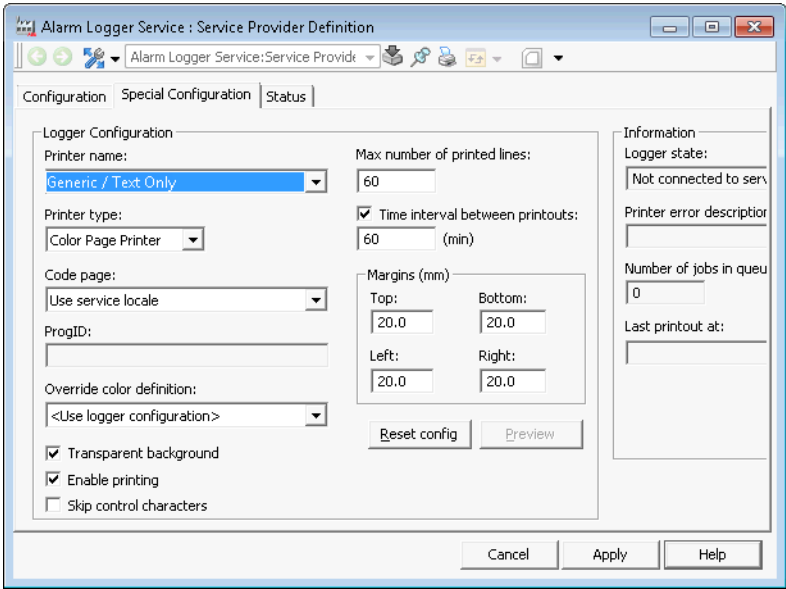

Figure 63. Service Provider Definition Aspect - Special Configuration Tab
7. Select the **Special Configuration** tab to customize the list printout. See Figure 63.
3. Configure the printer attributes below the **Special Configuration** tab. See Figure 63.